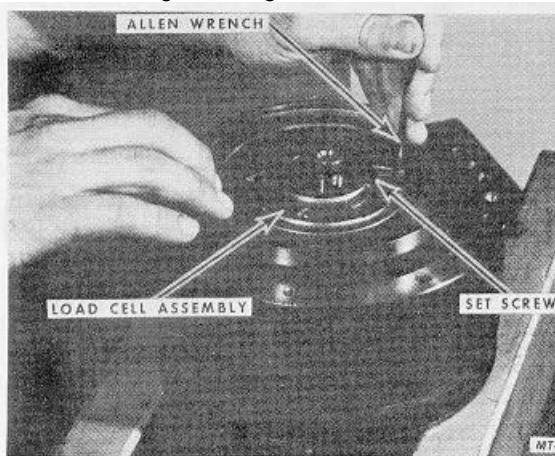

Fig. 76
39. Insert a 1/8 Allen wrench into Set Screw. The Load Cell Assembly can be lowered into position using the Allen wrench as a handle. Lower the Load Cell Assembly into position to rest against the "O" Ring Seal, Fig. 76.